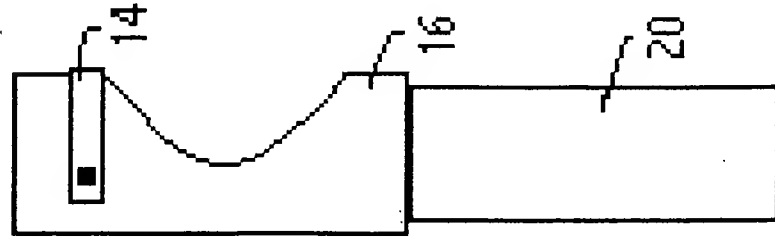

FIG. 7A
- Fig 7A shows built-in metal clip 14, ~~(rubber)~~ ^A SILICONE COVER boot not shown.